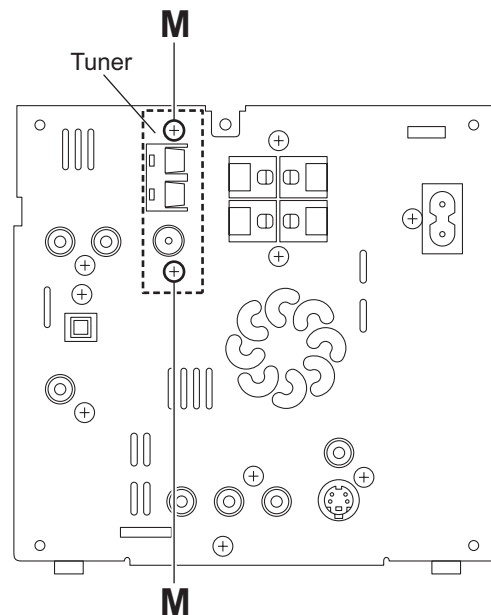

Fig.10
3.1.4 Removing the tuner (See Figs.10 and 11)
- (1) From the back side of the main body, remove the two screws **M** attaching the tuner to the rear panel. (See Fig.10.)